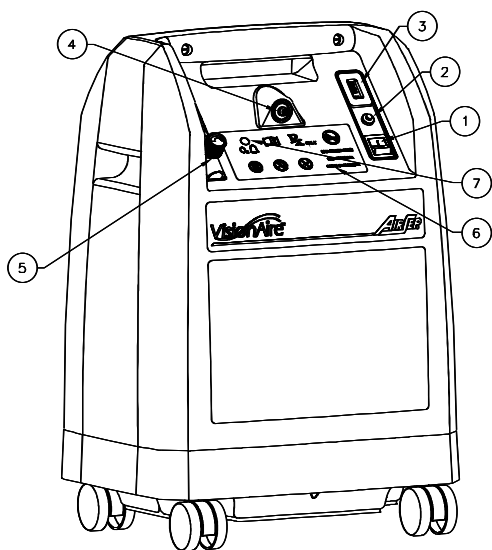

Figura I.1
I. 1. Panel frontal (figura I. 1)	2-ES
I. 1. Panel frontal(figura I. 1